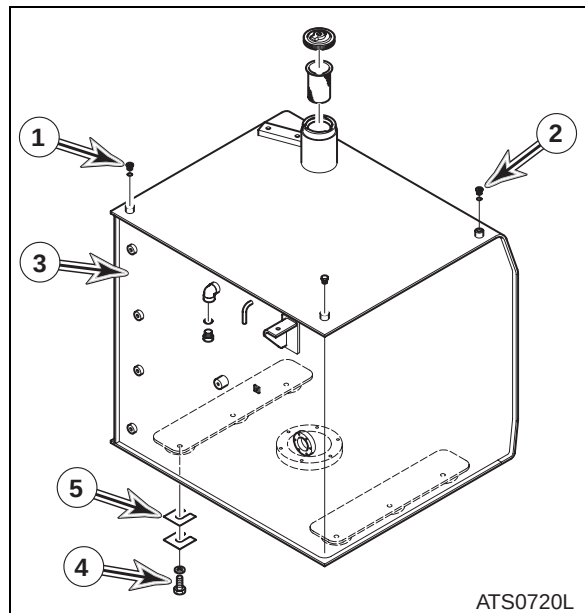

Figure 10
19. Install two 12 mm eye bolts in threaded holes (1 and 2, Figure 10). Using a suitable lifting device, sling eye bolts.
20. Remove six bolts and washers (4, Figure 10) holding tank (3) to frame. Lift tank 25 mm (1") and make sure it is balanced. Make sure that there are no other electrical wires or hoses connected to tank. Completely remove tank after inspection.
21. Remove shims (5, Figure 10).